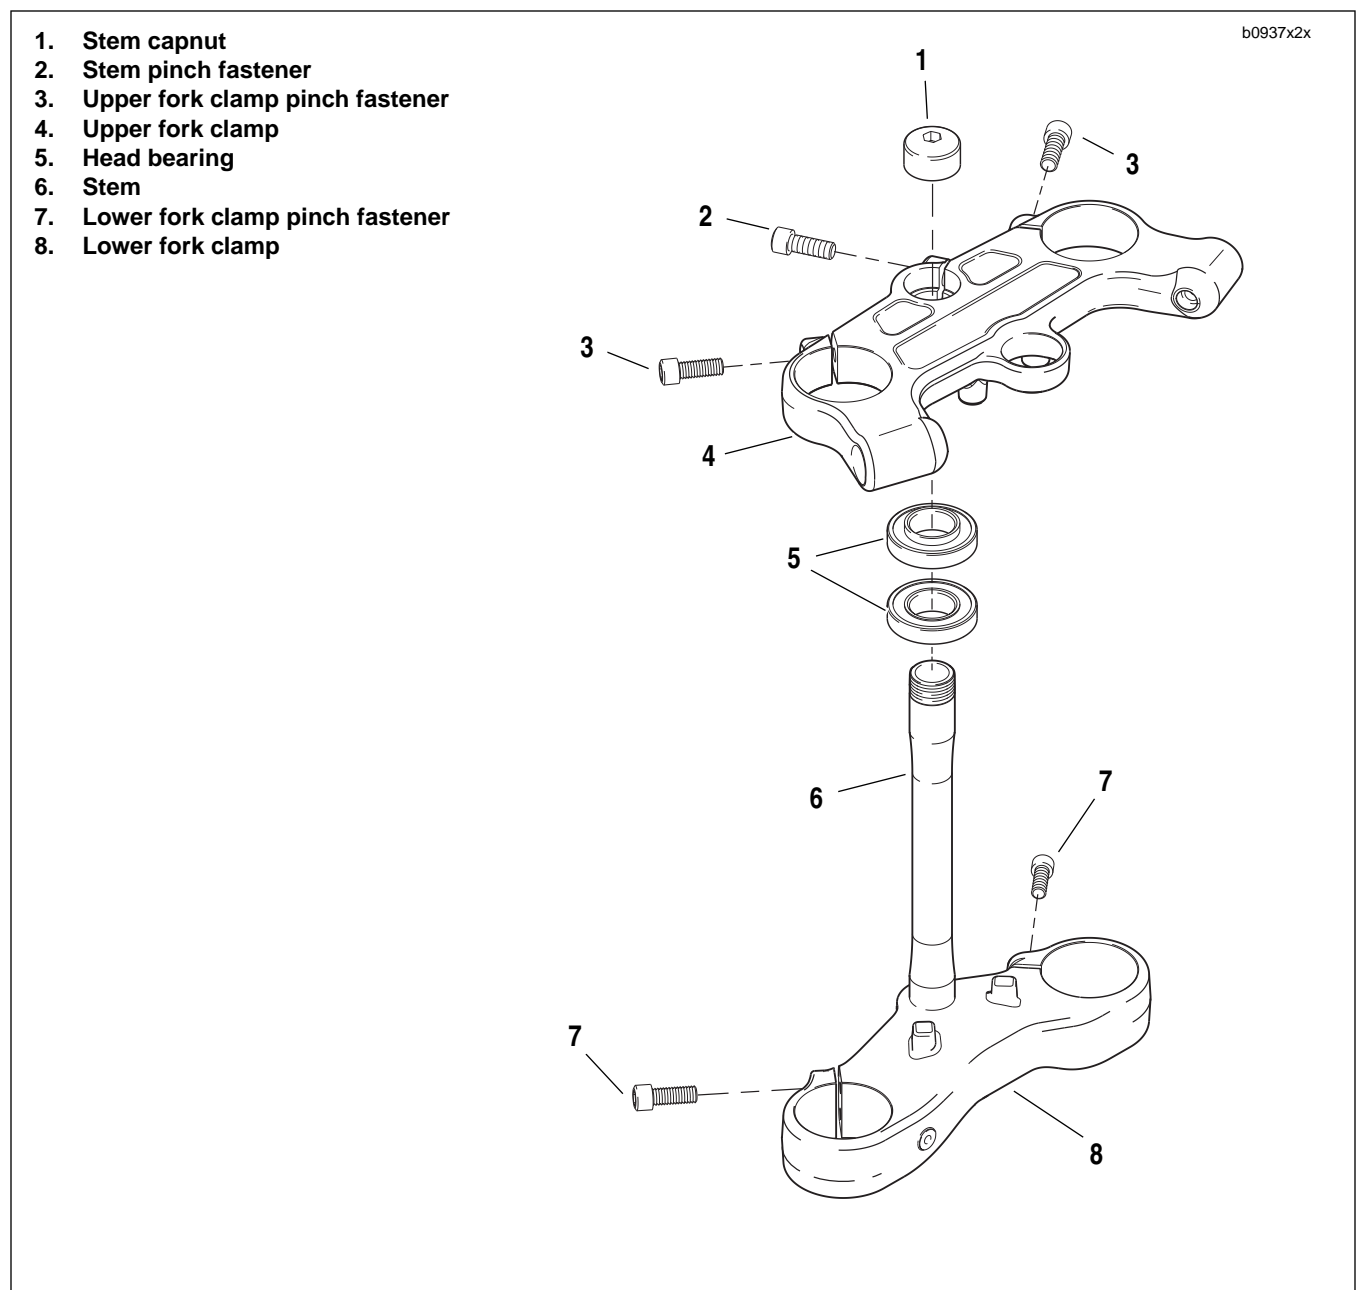

Figure 2-76. Steering Stem Assembly
5. See Figure 2-76. Remove steering stem pinch fastener (2).
8. See Figure 2-76. Hold or brace the lower fork clamp and remove steering stem capnut(1).
9. Remove the upper fork clamp (4).
10. Remove the lower fork clamp (8).
2. See Figure 2-76. Install the lower fork clamp (8) into the steering stem bore and install the upper fork clamp (4).
3. Install steering stem cap (1). Thread on by hand but do not torque.
- a. See Figure 2-76. Loosen steering stem pinch fastener (2) and upper and lower fork clamp pinch fasteners (3, 7).
- b. Brace wheel while removing steering stem capnut fastener (1).
- c. Remove upper fork clamp (4) and front-end assembly which includes front wheel, steering stem/lower fork clamp.
4. Remove upper and lower steering head bearings (5).